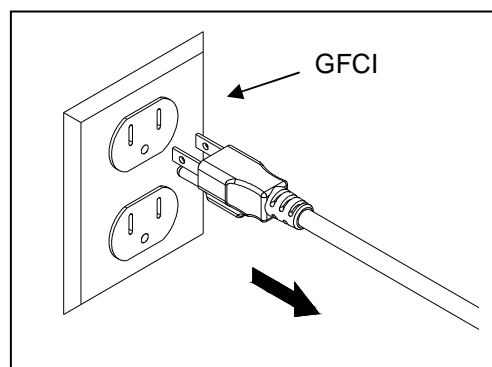

Fig. 15
1. Disconnect the UV light from the outlet. Be sure to allow sufficient time for the light to cool before disassembling the light. Fig. 15